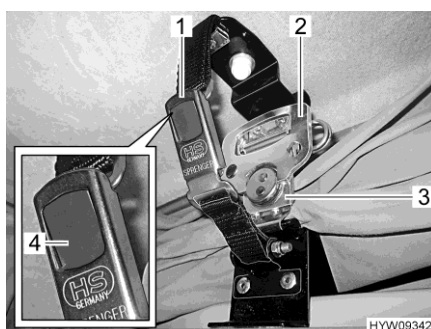

Fig. 60 Locking
- On both sides, pull down the quick-action turnbuckle (Fig. 60,3) and hang it into the holding plate.
- On each side, fold out the handle (Fig. 60,2) of the quick-action turnbuckle and turn half a turn in a clockwise direction.
- Plug both parts of the snap lock (Fig. 60,1) together, respectively. The grey push button (Fig. 60,4) engages.